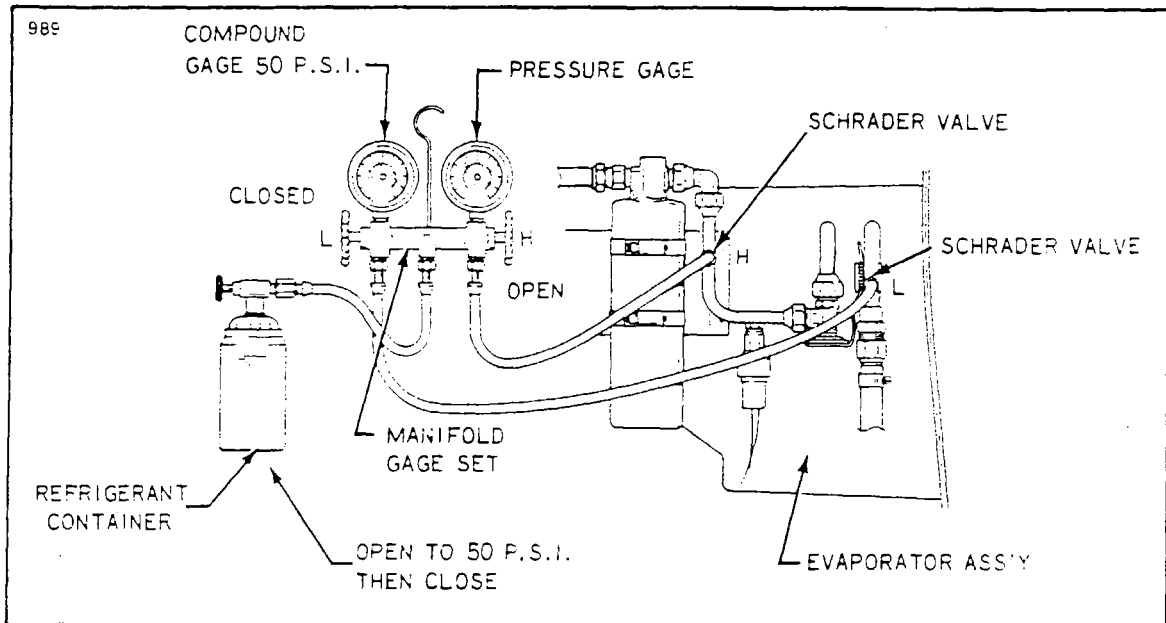

Figure 13-5. Leak Test Hookup
- a. Connect the manifold gauge set into the system and determine if there is any refrigerant in the system. A minimum of 50 psi refrigerant pressure in the system is needed for leak detection. (Refer to Figure 13-5.)